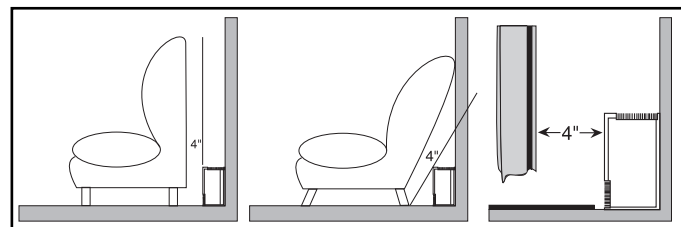

Figure 1: Furniture & Drapes
**WARNING: Hazard of Fire. Furniture must be placed no closer than four inches from the heater (see Figure 1)**
**WARNING: Hazard of Fire. Drapes must clear the top of heater by at least twelve inches; or, if floor length drapes are used, they must clear the finished floor by three inches and the minimum clearance from the back fold to the front cover should be at least four inches (see Figure 1)**